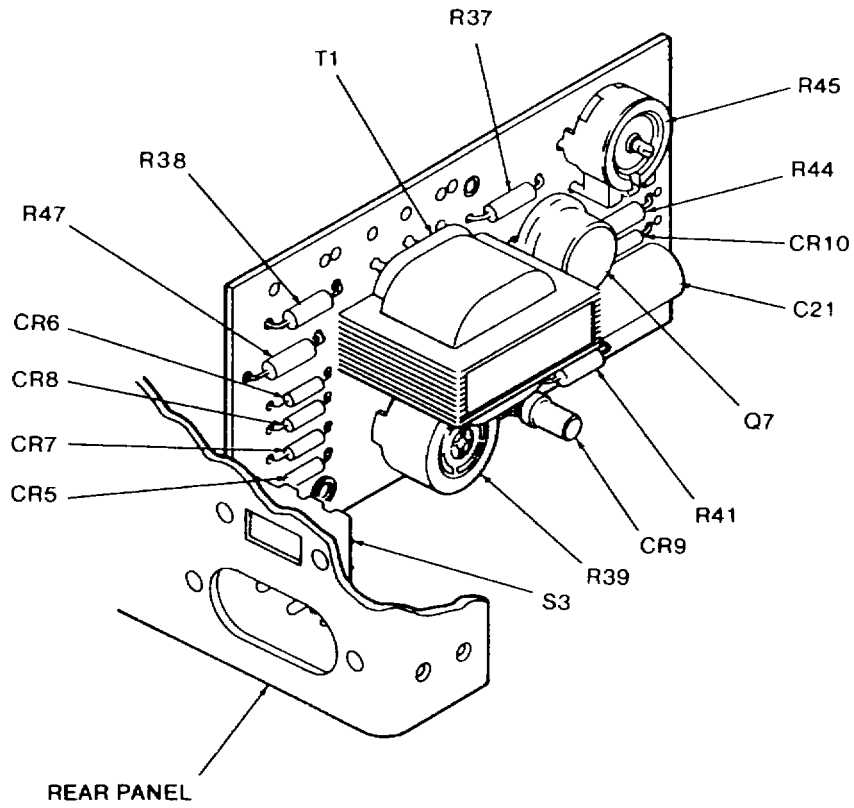

Figure 3-2. Voltmeter, parts location diagram.
- Adjust R39 for a 6.2-ma indication on the dc milliammeter (figure 3-2).